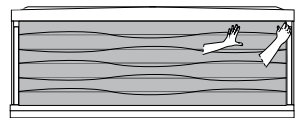

Figure 13.2b
2. Remove the center panel. Grab either the top left or top right side of the front center panel, Figure 13.2b. Gently pull the cabinet forward to unsnap it from the holding clips. Make sure to support the cabinet as you work your way down the side to completely unclip it from the hot tub frame. Once completely unclipped, tilt slightly forward and lift up to remove it from the hot tub frame. Place the panel in a safe location to prevent from damaging it. **Note:** Two people might be required for this process.